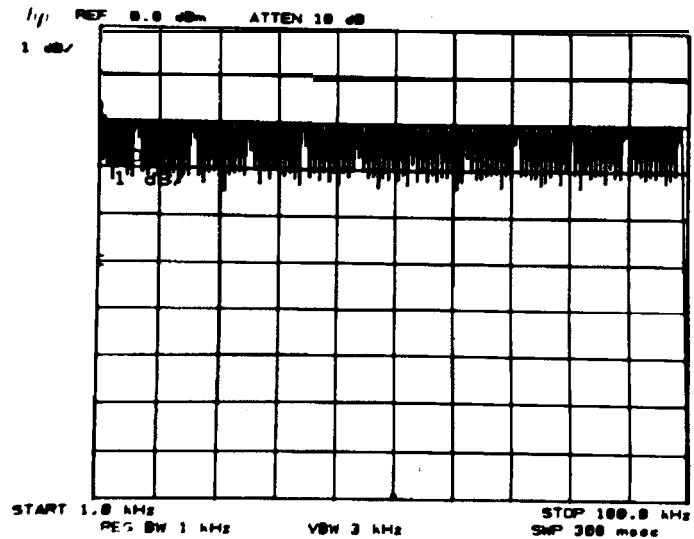

Figure 2-15.
11. Press TRACE A **(MAX HOLD)**. Press MODULATION SWP on the function generator. When function generator completes one sweep, press TRACE A (VIEW). Trace should appear as in Figure 2-15.